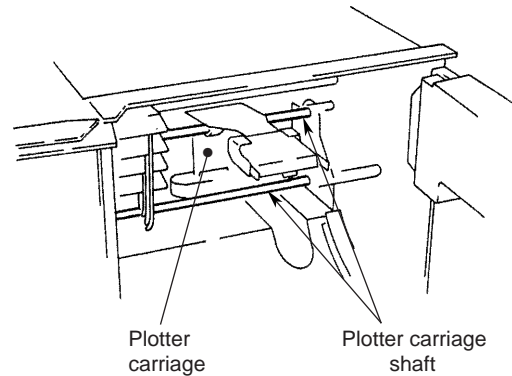

Figure 11.8 Plotter Carriage Shafts
- 2 Two shafts (upside and downside of the plotter carriage) are visible (see figure 11.8). Wipe off dirt with a soft cloth without fibers. If the dirt is persistent, you may use ethyl alcohol.